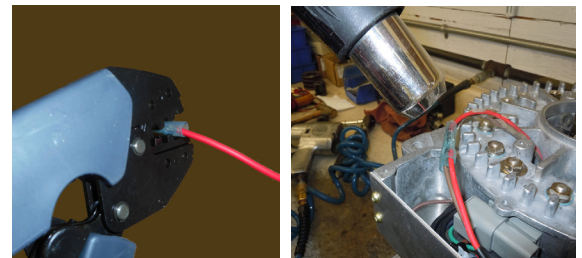

Figure 2: Crimp Splices and Seal with Heat Gun
- e. Follow wire locations identified in step d and insert each stripped wire end into splice and crimp. See Figure 2.
- f. Using a heat gun, heat shrink both splices. See Figure 2.